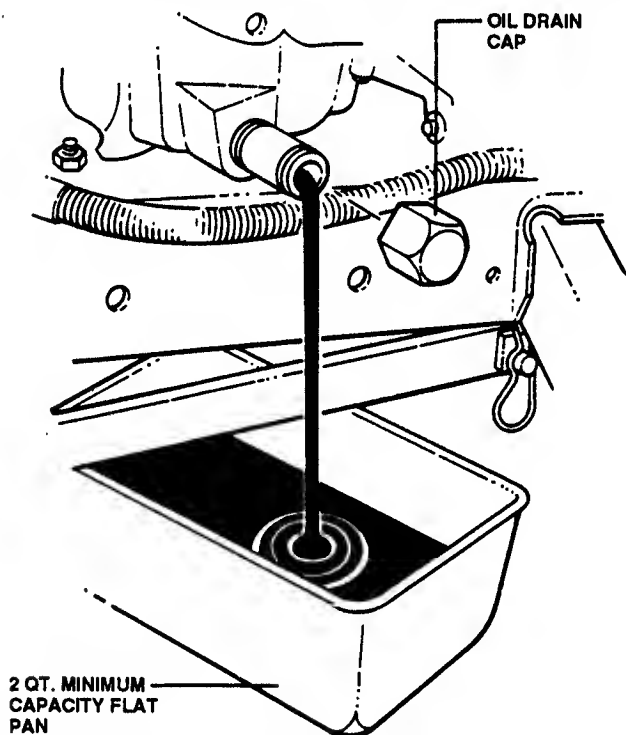

FIGURE 11-12
3. Loosen oil fill cap and remove oil drain cap. Allow engine oil to drain completely. See Figure 11-12.